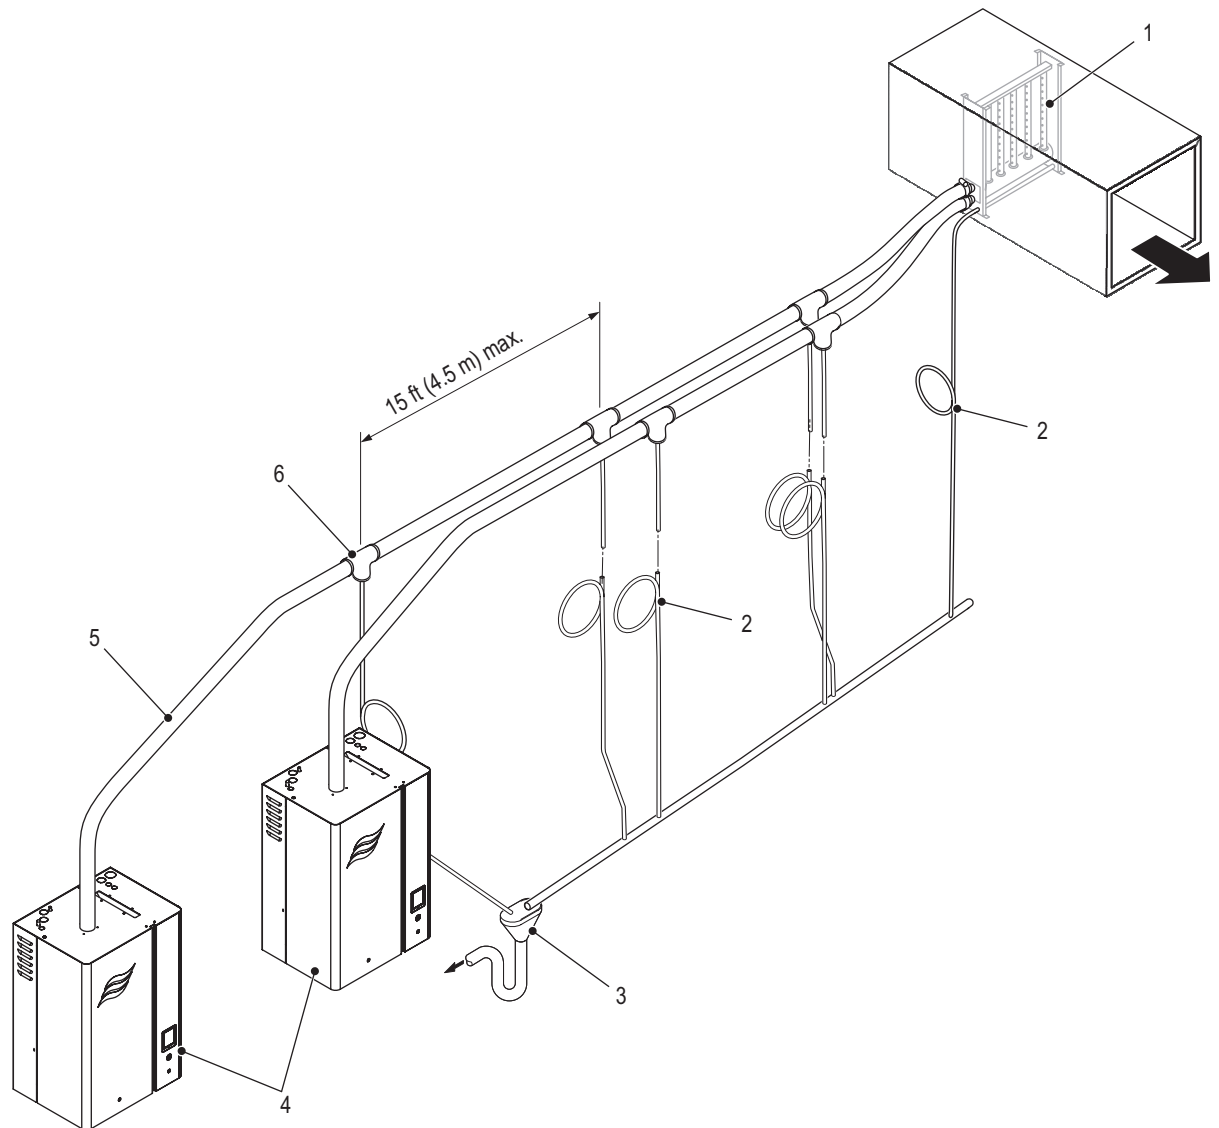

Figure 22: Combining Multiple Steam Lines
- Condensate lines and traps must be installed at regular intervals on long steam runs, and the maximum distance between condensate lines is 15 ft (4.5 m). Refer to Figure 22 on page 45.
- Multiple steam lines (from a Nortec EL 150/200 with dual steam cylinders, or multiple humidifiers) must not merge except at the steam distributor, and ONLY if the steam cylinders operate in parallel mode – refer to Figure 22. If necessary, a specifically designed optional Condair adaptor must be used to connect the steam lines to the steam distributor.